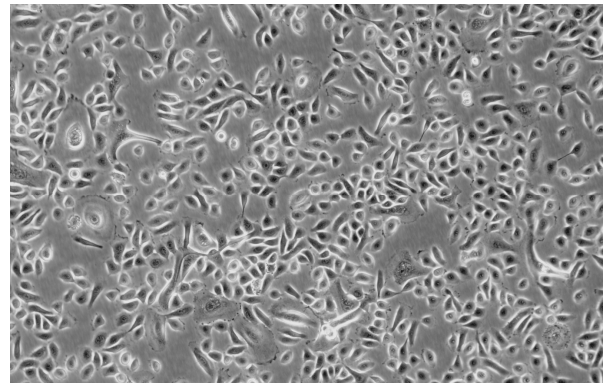

Figure 1. SAEC morphology (10X) in the expansion mode; ~80% confluence in S-ALI™ growth medium
- Day 3 after seeding: the cells should be sufficiently confluent to be harvested for seeding onto the transwell inserts (see figure 1).